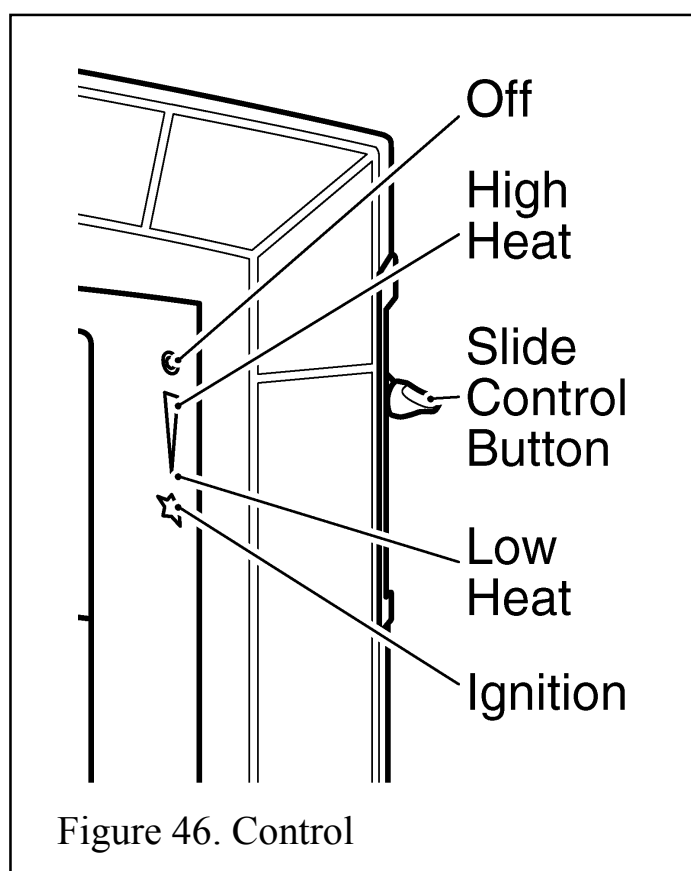

Figure 46. Control
The control position markings on the front surround are shown in figure 46.
5. Gradually slide the button up to increase the burner setting. The burner should be at its maximum setting at the high heat position shown in figure 46. You should feel a check to the button movement at this position.